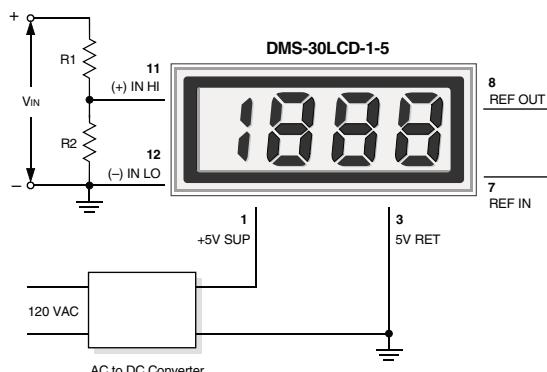

Figure 4. Input Attenuation Circuit
**3. Engineering Scaling:** For measuring voltages greater than the full scale input range of a given meter, the input signal must be attenuated. A simple voltage divider (similar to that shown in Figure 4) will scale the input to within the range of the selected meter. R1 and R2 should be precision,  $\pm 1\%$ , metal-film resistors with absolute TCR's less than 50ppm/ $^{\circ}\text{C}$ . See Ap Note 4 for more information on engineering scaling.